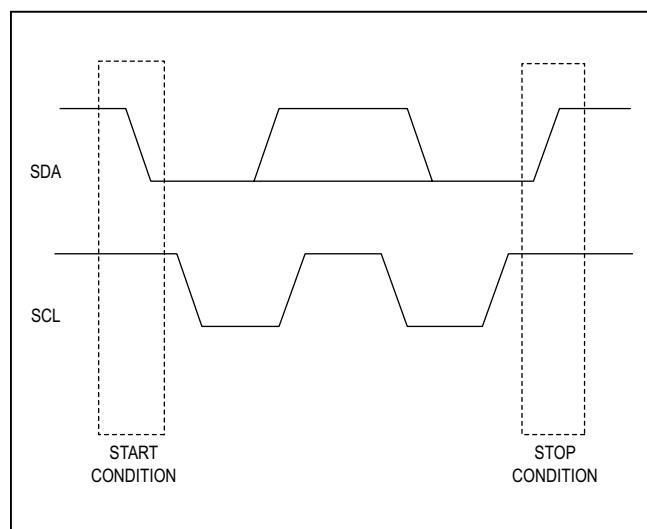

Figure 16. Start and Stop Conditions
Both SCL and SDA remain high when the bus is not busy. The master signals the beginning of a transmission with a START (S) condition by transitioning SDA from high to low while SCL is high. When the master has finished communicating with the IC, it issues a STOP (P) condition by transitioning SDA from low to high while SCL is high. The bus is then free for another transmission, Figure 16. Both START and STOP conditions are generated by the bus master.